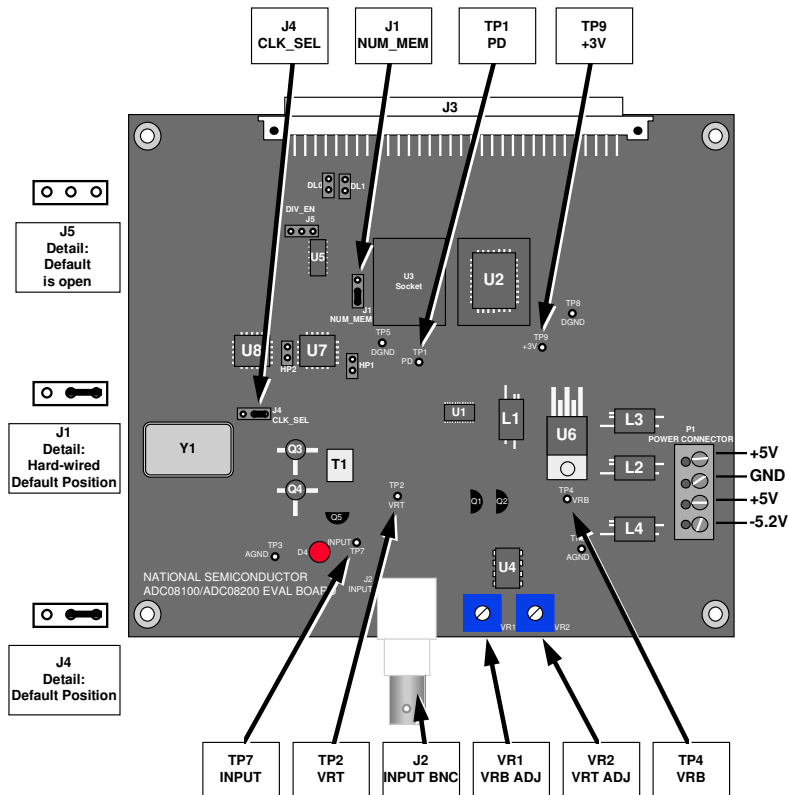

Figure 1. Component and Test Point Locations
The ADC08100 Evaluation Board may come pre-assembled or as a bare board that must be assembled. Refer to the Bill of Materials for a description of components, to *Figure 1* for major component placement and to *Figure 2* for the Evaluation Board schematic.
Refer to *Figure 1* for locations of test points and major components.
Refer to Figure 1 for locations of connectors, test points and jumpers on the board.
2. Set jumper J4 to its default position, as shown in *Figure 1* to divide the clock oscillator frequency by two for the ADC08100.
6. Be sure jumper JP4 is set to divide the 100MHz clock by 2. This is the default position as shown in Figure 1.
Refer to Figure 1 for locations of connectors, test points and jumpers on the board. If at any time the expected response is not obtained, see section 5.2.6 on Troubleshooting.